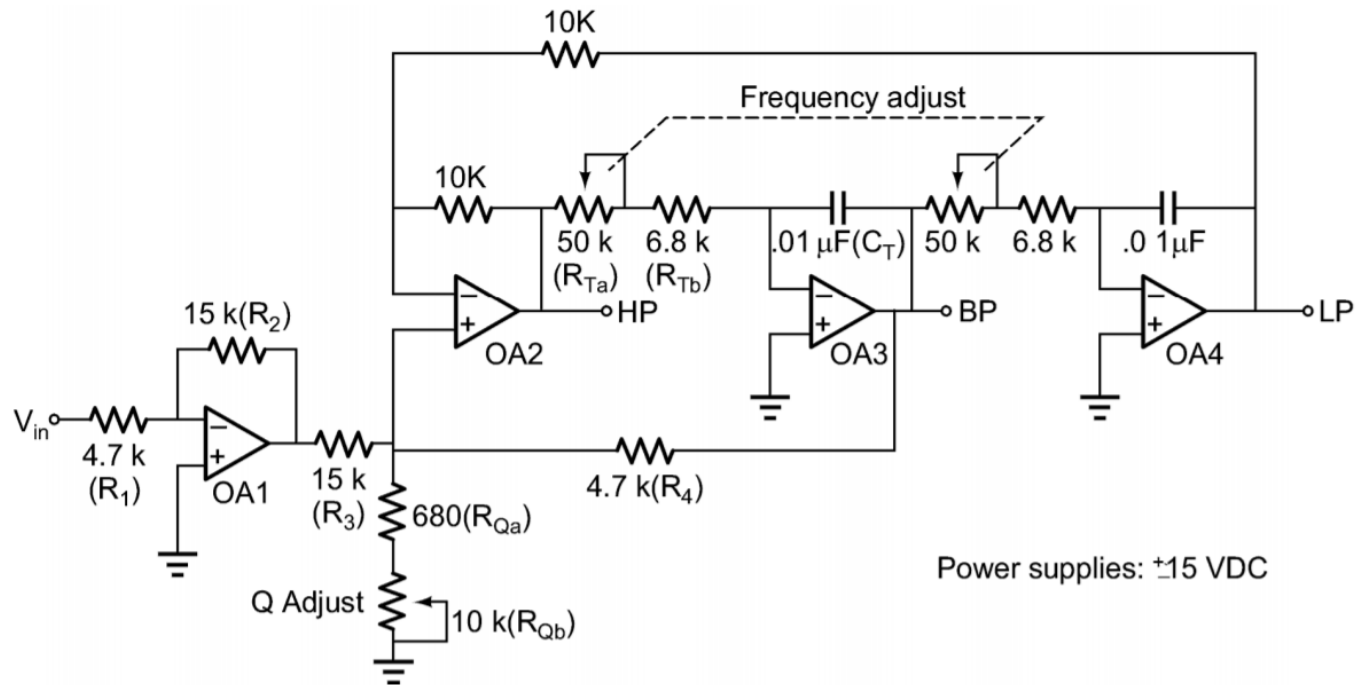

Figure 22.5.1
1. Assemble the circuit of Figure 22.5.1.